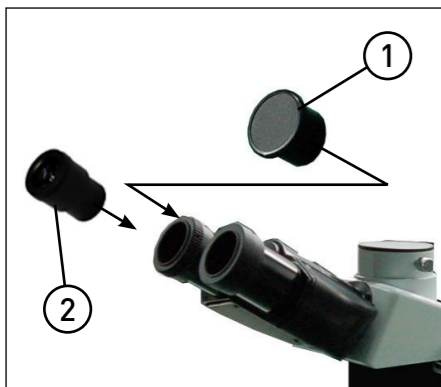

FIGURE 10
2.2.7 Installing the eyepiece (Fig. 10)